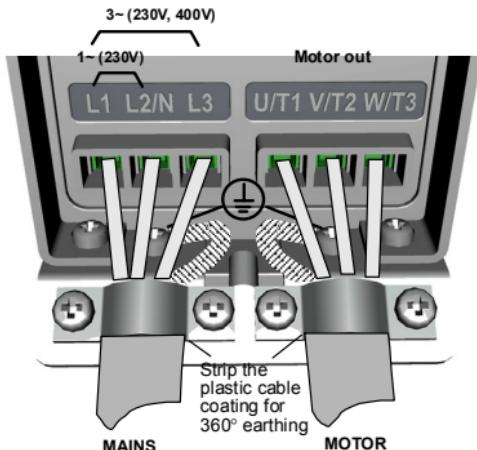
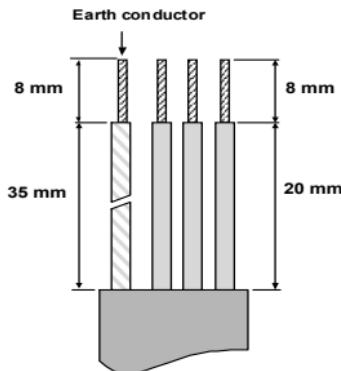

Figure 3.12: Vacon 20 power connections, MI1
Figure 3.26: Stripping of cables
4	<p>Connecting the cables:</p> <ul style="list-style-type: none"> <li>• Strip the motor and mains cables as advised in Figure 3.26.</li> <li>• Connect the mains, motor and control cables into their respective terminals, see Figures 3.12 - 3.21.</li> <li>• Note the tightening torques of power cables and control cables given in page 25 and page 30.</li> <li>• For information on cable installation according to UL regulations see Chapter 3.2.7.</li> <li>• Make sure that the control cable wires do not come in contact with the electronic components of the unit.</li> <li>• If an external brake resistor (option) is used, connect its cable to the appropriate terminal.</li> <li>• Check the connection of the earth cable to the motor and the frequency converter terminals marked with</li> </ul> <div style="text-align: center;">  </div> <ul style="list-style-type: none"> <li>• Connect the separate shield of the motor cable to the earth plate of the frequency converter, motor and the supply centre.</li> </ul>
**Note!** Strip also the plastic cover of the cables for 360 degree earthing. See Figures 3.12, 3.13 and 3.20.